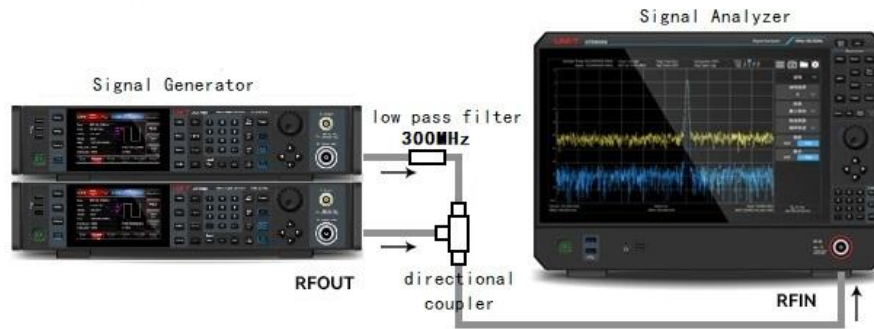

Figure 3-18 Instrument's Setting of Third-order Intercept Point Signal
- Connect the instrument as shown in Figure 3-18, the two signal generators are connected to the input of a directional coupler through a low-pass filter, and the output of the coupler is a two-tone signal source with very low intermodulation distortion. Although the distortion performance of this connection is better than that of the signal analyzer, it is still useful to measure the TOI of the source/signal analyzer combination. After calibrating the TOI performance of the source/signal analyzer combination, the instrument under test (DUT) (e.g., an amplifier) is inserted between the output of the directional coupler and the input of the signal analyzer.